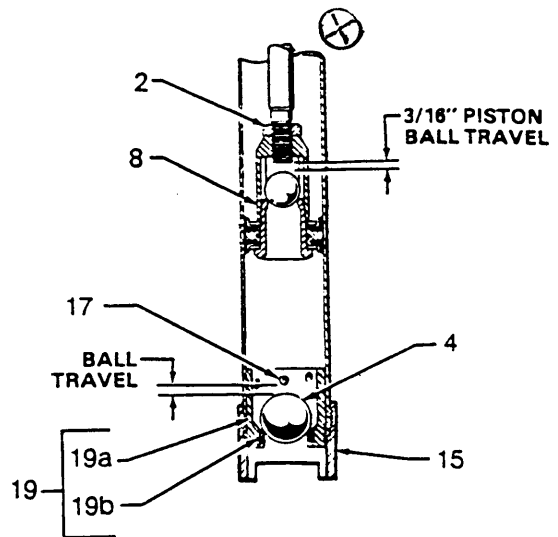

Fig 5
**To change the piston ball travel,** loosen the locknut (2). Turn the piston body (8) *counterclockwise to increase*, and *clockwise to decrease*. Medium viscosity fluids should have a 3/16 in. (5 mm) ball travel. See Fig 5. Decreasing the ball travel minimizes surging at stroke changeover, but too short a ball travel restricts the flow and slows down the pump.
**To change the intake valve ball travel,** move the ball stop pin (17) to a higher or lower set of holes. Use the middle holes for medium viscosity fluids.